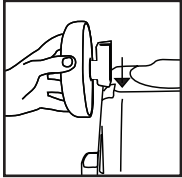

FIGURE 11
14. Slide axle housing into dovetail slot at rear of tank; axle housing is tapered and should slide into dovetail slot without excessive force. **FIGURE 11.** Tighten screw.